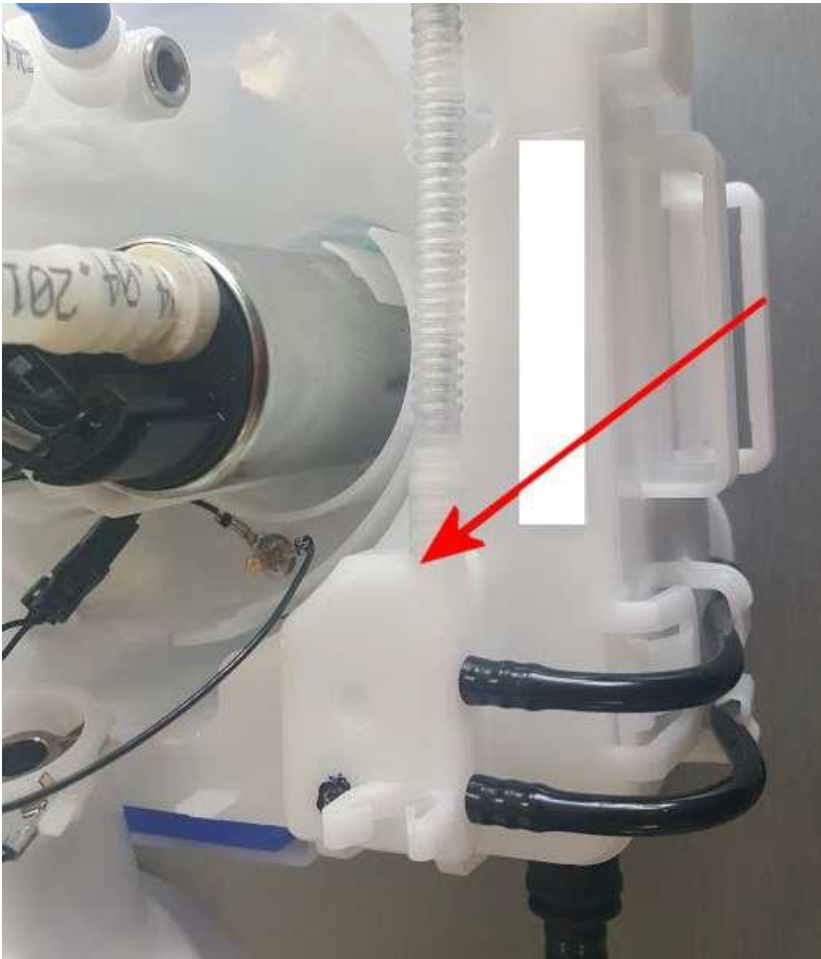

Figure 7
4) Referring to Figure 7 (For photographic purposes Figure 7, was taken with the fuel pump assembly removed from the fuel tank) Check the connection shown is not broken **NOTE:** Care should be taken when checking this part as damage can be caused when manipulating the fuel pump assembly